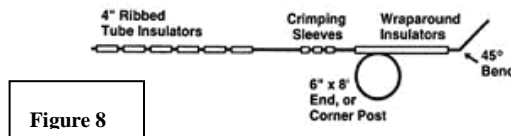

Figure 8
- ❑ One crimping sleeve should be left on electric wires before anchoring to allow for electrical hookups.(Figure 8)